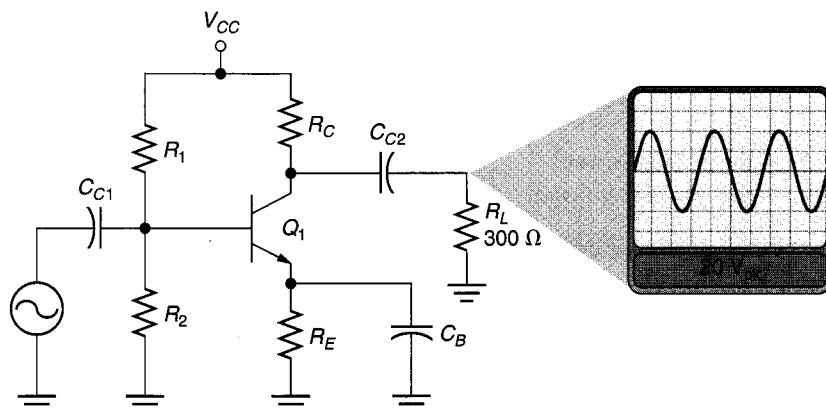

FIGURE 11.11
Determine the ac load power for the circuit shown in Figure 11.11.
7. In this section, you were shown how to calculate load power using rms, peak, and peak-to-peak values. Why isn't there a  $P_L$  equation for circuits like the one shown in Figure 11.11 that uses the dc average load voltage?